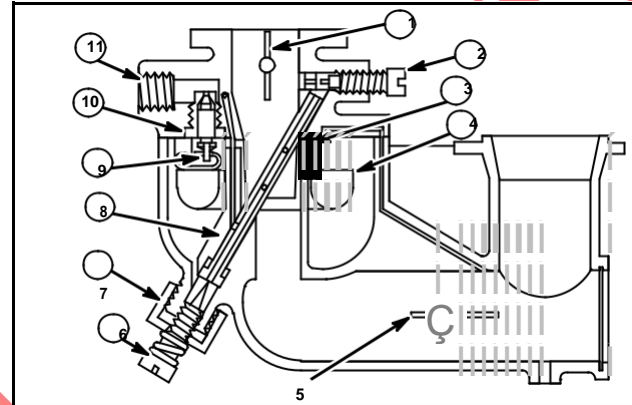

Fig. 133
4. Because emulsion tube (8) projects diagonally into a recess in upper body, it must be removed before separating upper and lower bodies, Fig. 133.
7. With a wide blade screwdriver that completely fills slot, remove inlet seat (11).